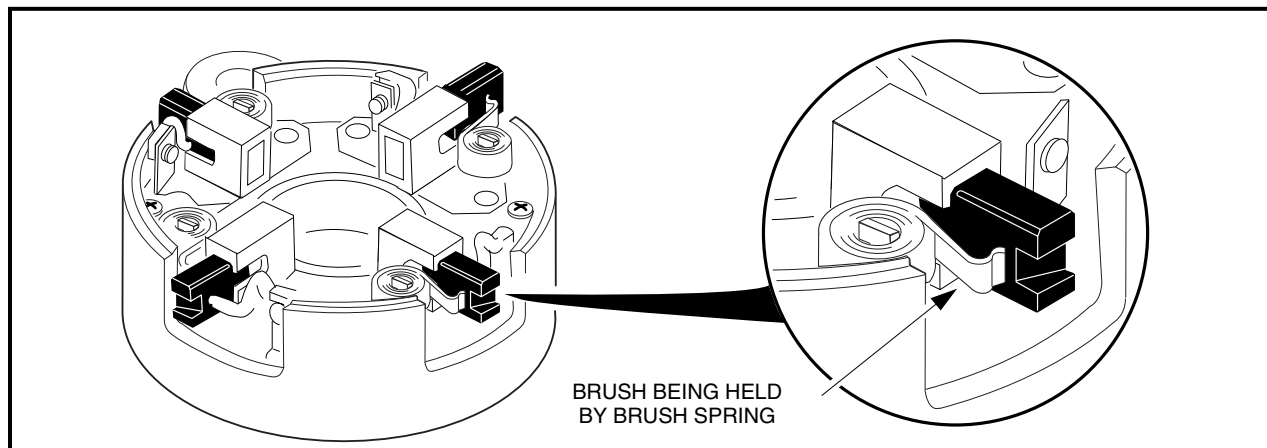

Figure 12b-7 Pull Brushes Away from Center of the Commutator End Cover
2. Remove nut (41), lock washer (40), pulley (39), shaft key (34), spacer (37) and bearing retainer screws (43) and separate armature (33) from output end cover (36) (**Figure 12b-8, Page 12b-5**).